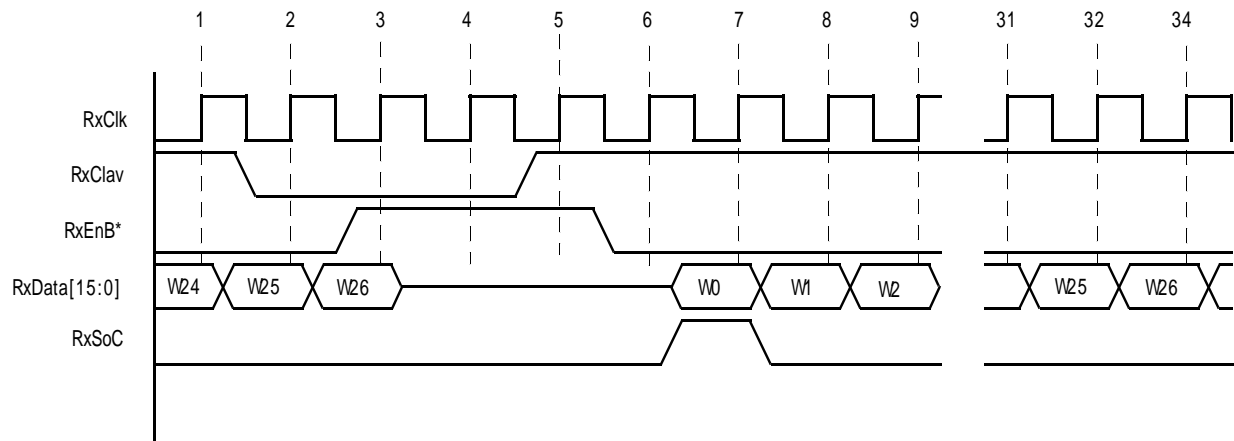

Figure 85. Timing Diagram of ATM Layer processor Receiving Data from the UN over the Utopia Data Bus, (Single-PHY Mode/ Cell Level Handshaking).
Figures 85 and 86.
Notes regarding Figure 85:
2. The Receive Utopia Data bus is configured to handle 54 bytes/ cell. Hence, Figure 85 illustrates the ATM Layer processor reading 27 words (W0 through W26) for each ATM cell.